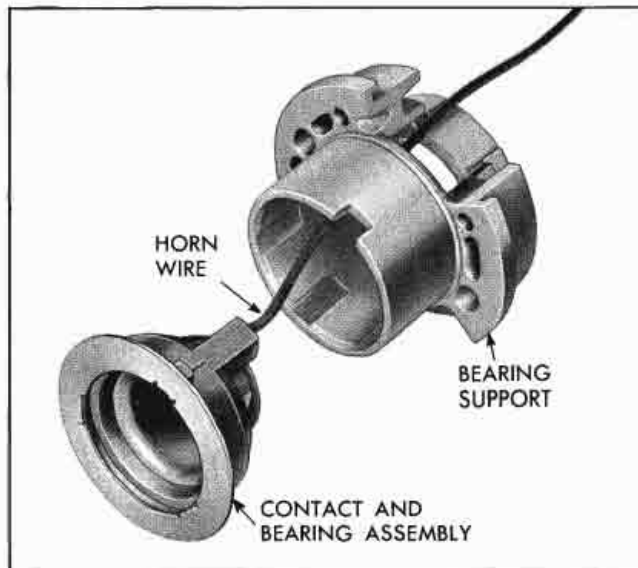

Fig. 7-18 Contact and Bearing Support Assembly
12. Remove upper bearing support assembly from top end of shifter tube (Fig. 7-18).
20. Install horn wire and contact assembly in end of bearing support (Fig. 7-18), snaking wire through outer slots of bearing support lock plate and retainer plate and between steering column housing and shifter tube.